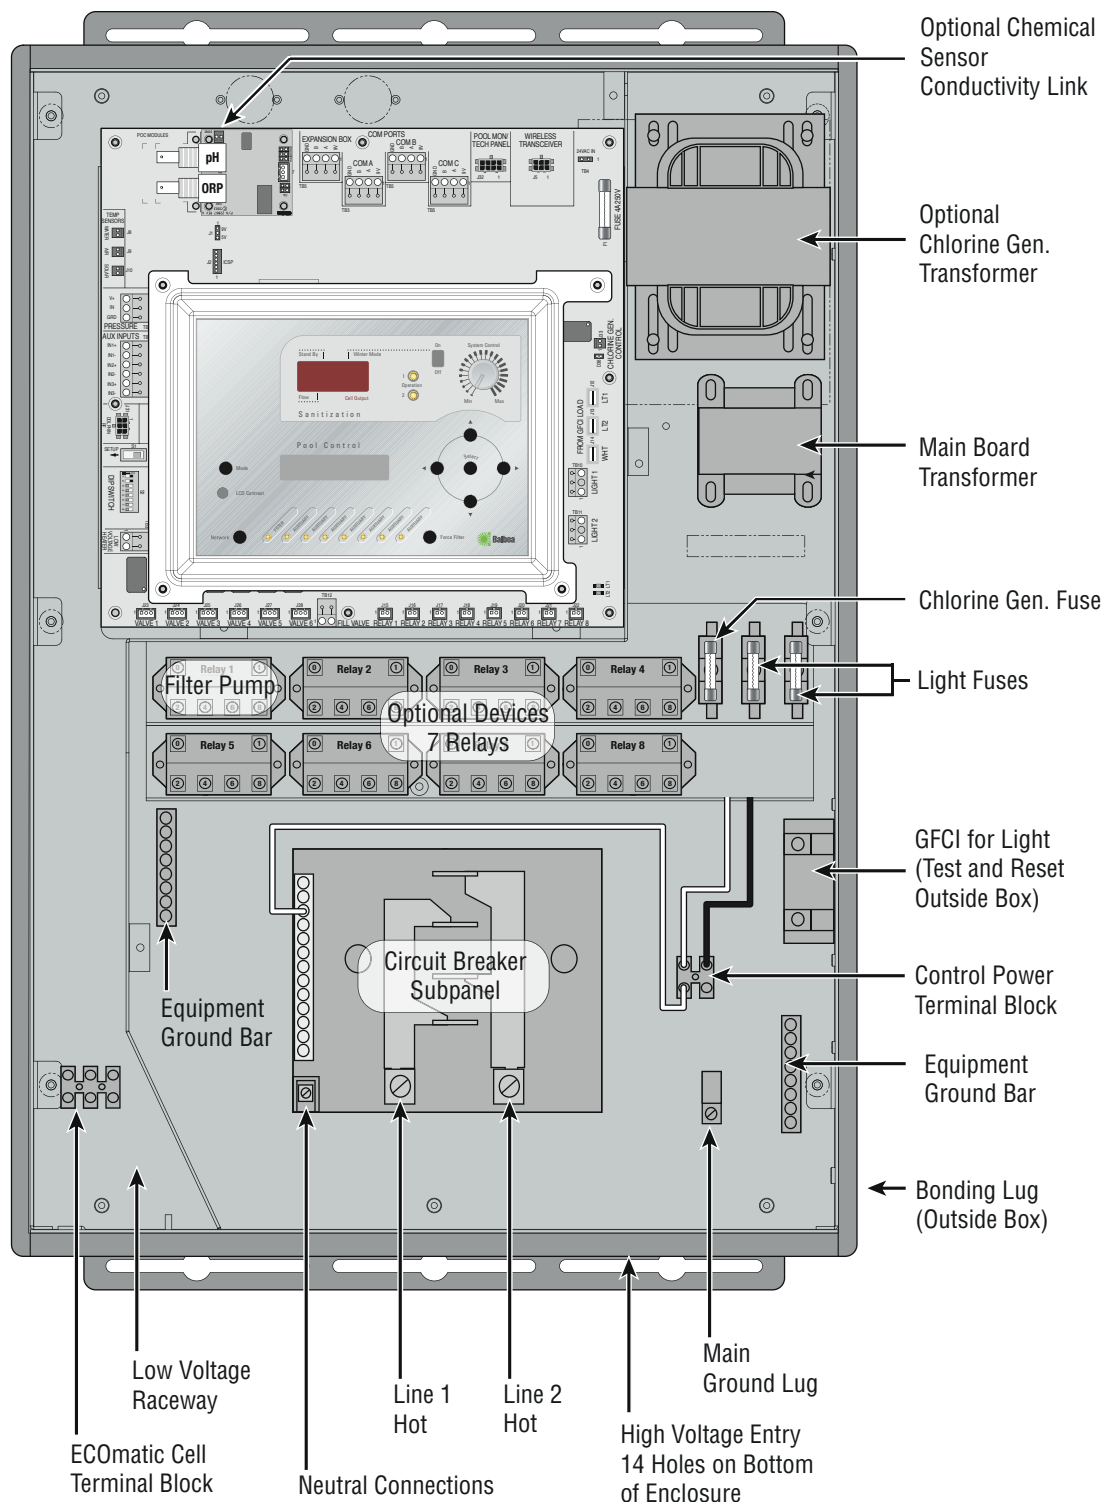
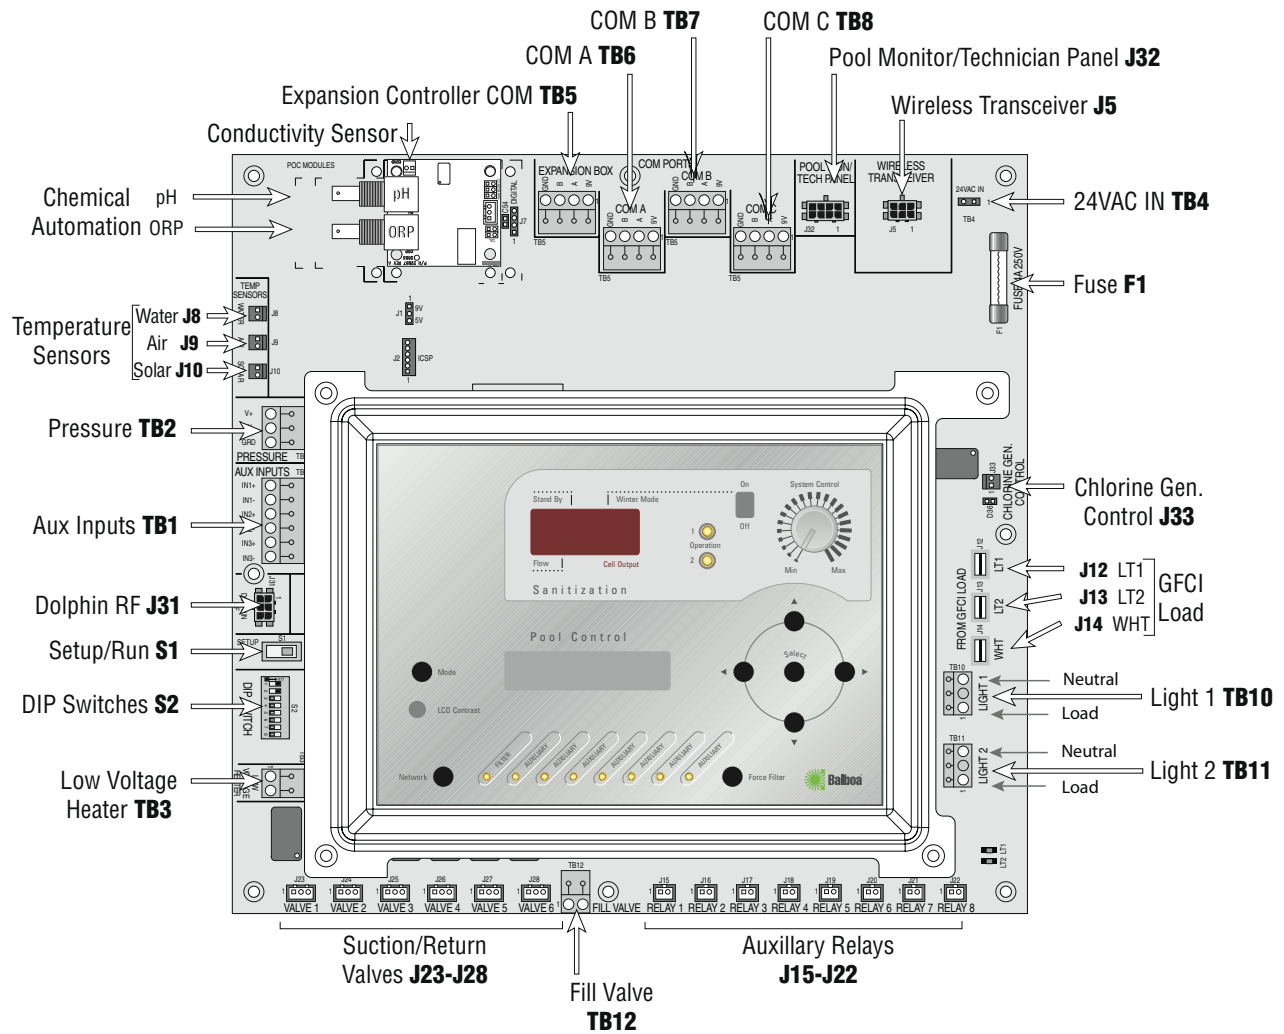

Fig. 12 System Control Center Wiring
Fig. 13 System Control Center Main Panel
Run the conduit from the Power Supply Panel of the house to the System Control Center. There are two (2) knockouts on the bottom of the enclosure for 1" conduit. Pull the appropriately rated conductors (L1, L2, Neutral and Ground) and connect them to the line terminals in the System Control Center per Fig. 12 System Control Center Wiring.
Bring the wires from the lights into the high voltage compartment. Connect the ground wire from the lights to the grounding bar near the GFCI. Connect the light wires to terminal block TB10 for the LIGHT1 circuit or to terminal block TB11 for the LIGHT2 circuit. These terminal blocks are located on the circuit board near the Main Board Transformer as shown in Fig. 12 & FIG. 13. (The wires must pass through the holes in the compartment wall that line up with each of the terminal blocks.
The two-position terminal block TB12 labeled "Fill Valve" is provided to allow easy connection of a 24VAC irrigation valve. This function will need to be enabled during configuration and setup. (Refer to Fig. 13.)